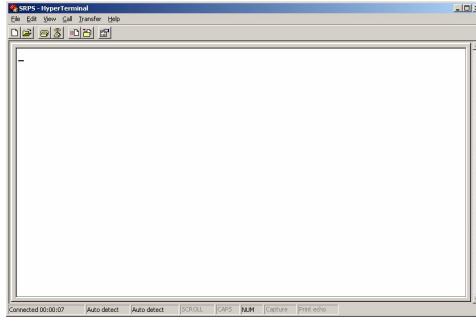

Figure 9 Hyperterminal
10. Click OK. The Hyperterminal appears. See Figure 9.